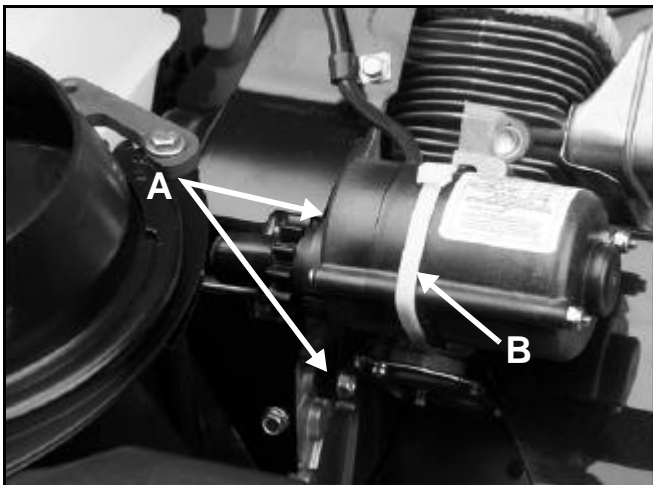

Figure 141 1854-39
11. Remove the two screws on the starter and snip the tie holding the starter in position (Figure 141).